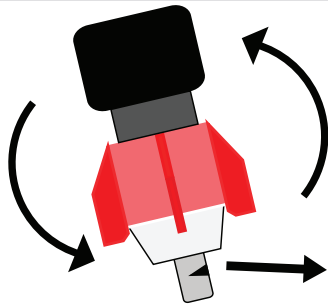

Fig. 7-4
- 2 Rotate the entire nozzle body (See Fig.7-4) upon the pipe nipple until the spray comes out slightly less than parallel to the ground and delivers the spray width desired. (Up to a maximum of 11 feet).